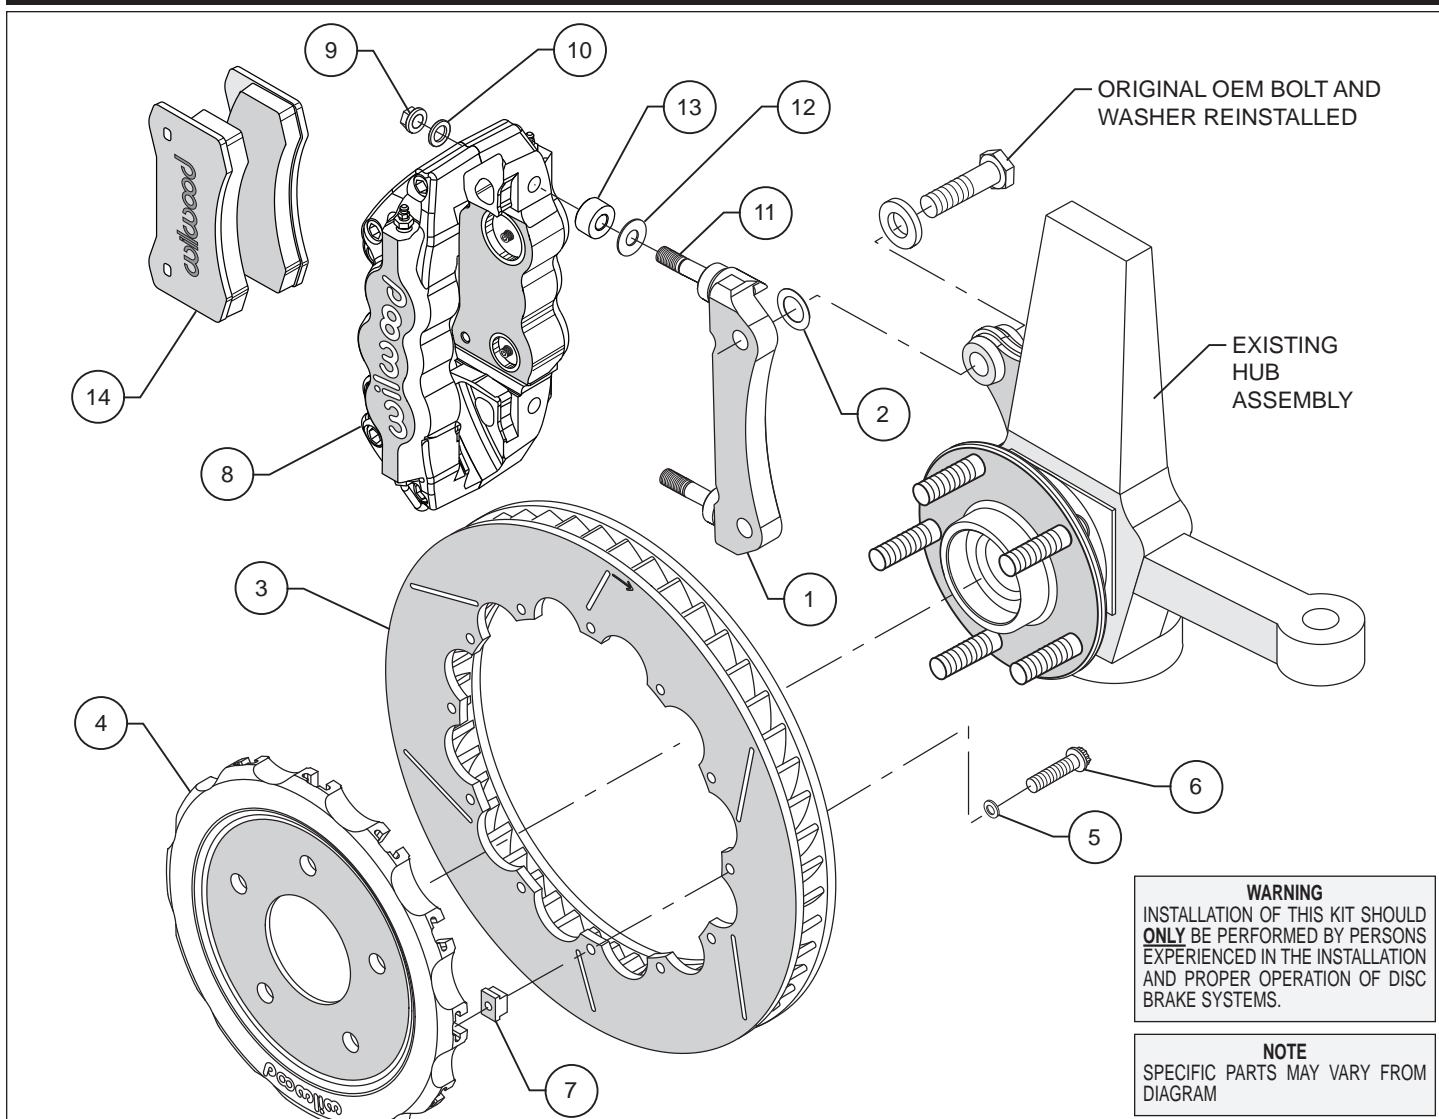
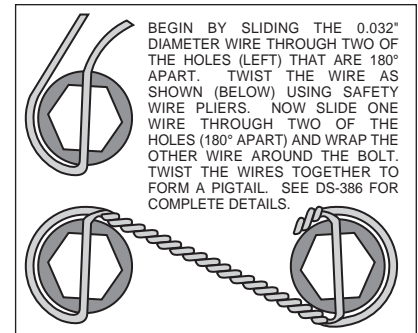

Figure 1. Typical Installation Configuration
Figure 3. Safety Wire Diagram
- The caliper mount bracket assembly (1) should be installed first with clean, dry threads on the mounting bolts. Install the bracket using the original caliper mount bolts. The bracket must tighten squarely against the outboard side of the caliper mount bosses on the spindle body. Inspect for interference from casting irregularities, machining ridges, burrs, etc. Use one thin shim (2) between the bracket and spindle during initial trial fitting. Later, after the caliper, pad, and rotor alignment has been checked, and any necessary shims have been put in place, the mount bolts should be coated with red *Loctite*® 271 and torqued to 65 ft-lbs.
- Assemble the rotor (3) to the hat (4) with the bolts (6), washers (5) and t-nuts (7) as shown in the configuration pictured in Figure 1. Follow all additional instructions included with the bolt kit. Using an alternating sequence, apply red *Loctite*® 271 to the threads and torque bolts to 120 **in-lb**. For an added measure of security, the bolts may be safety wired using standard 0.032 inch diameter stainless steel safety wire as shown in Figure 3. Please refer to Wilwood's data sheet DS-386 (available at www.wilwood.com/Pdf/DataSheets/ds386.pdf) for complete safety wire installation instructions.